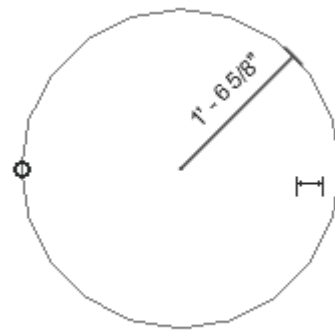

FIGURE 3-1.18
43. **Select the circle** and notice a temporary dimension appears indicating the circle’s radius. Press **Esc** to unselect it (Figure 3-1.18).